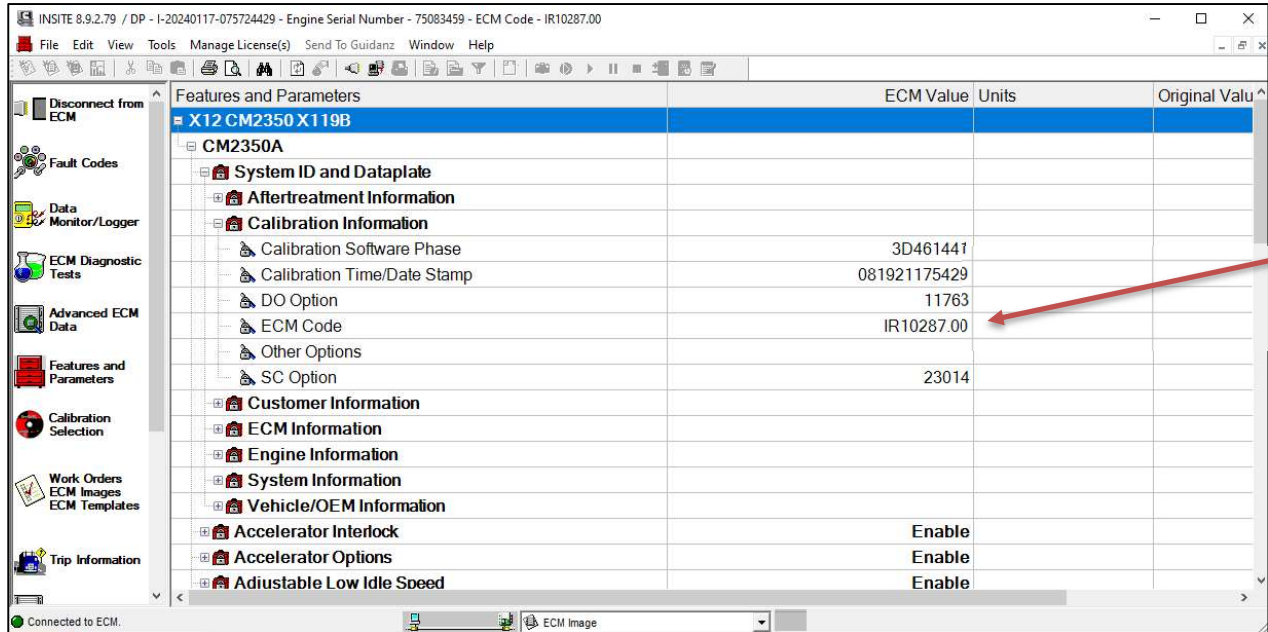

Figure 17
- 25. Using Cummins Insite Pro diagnostic software, connect to the engine and retrieve the current ECM calibration code installed. See figure 17.